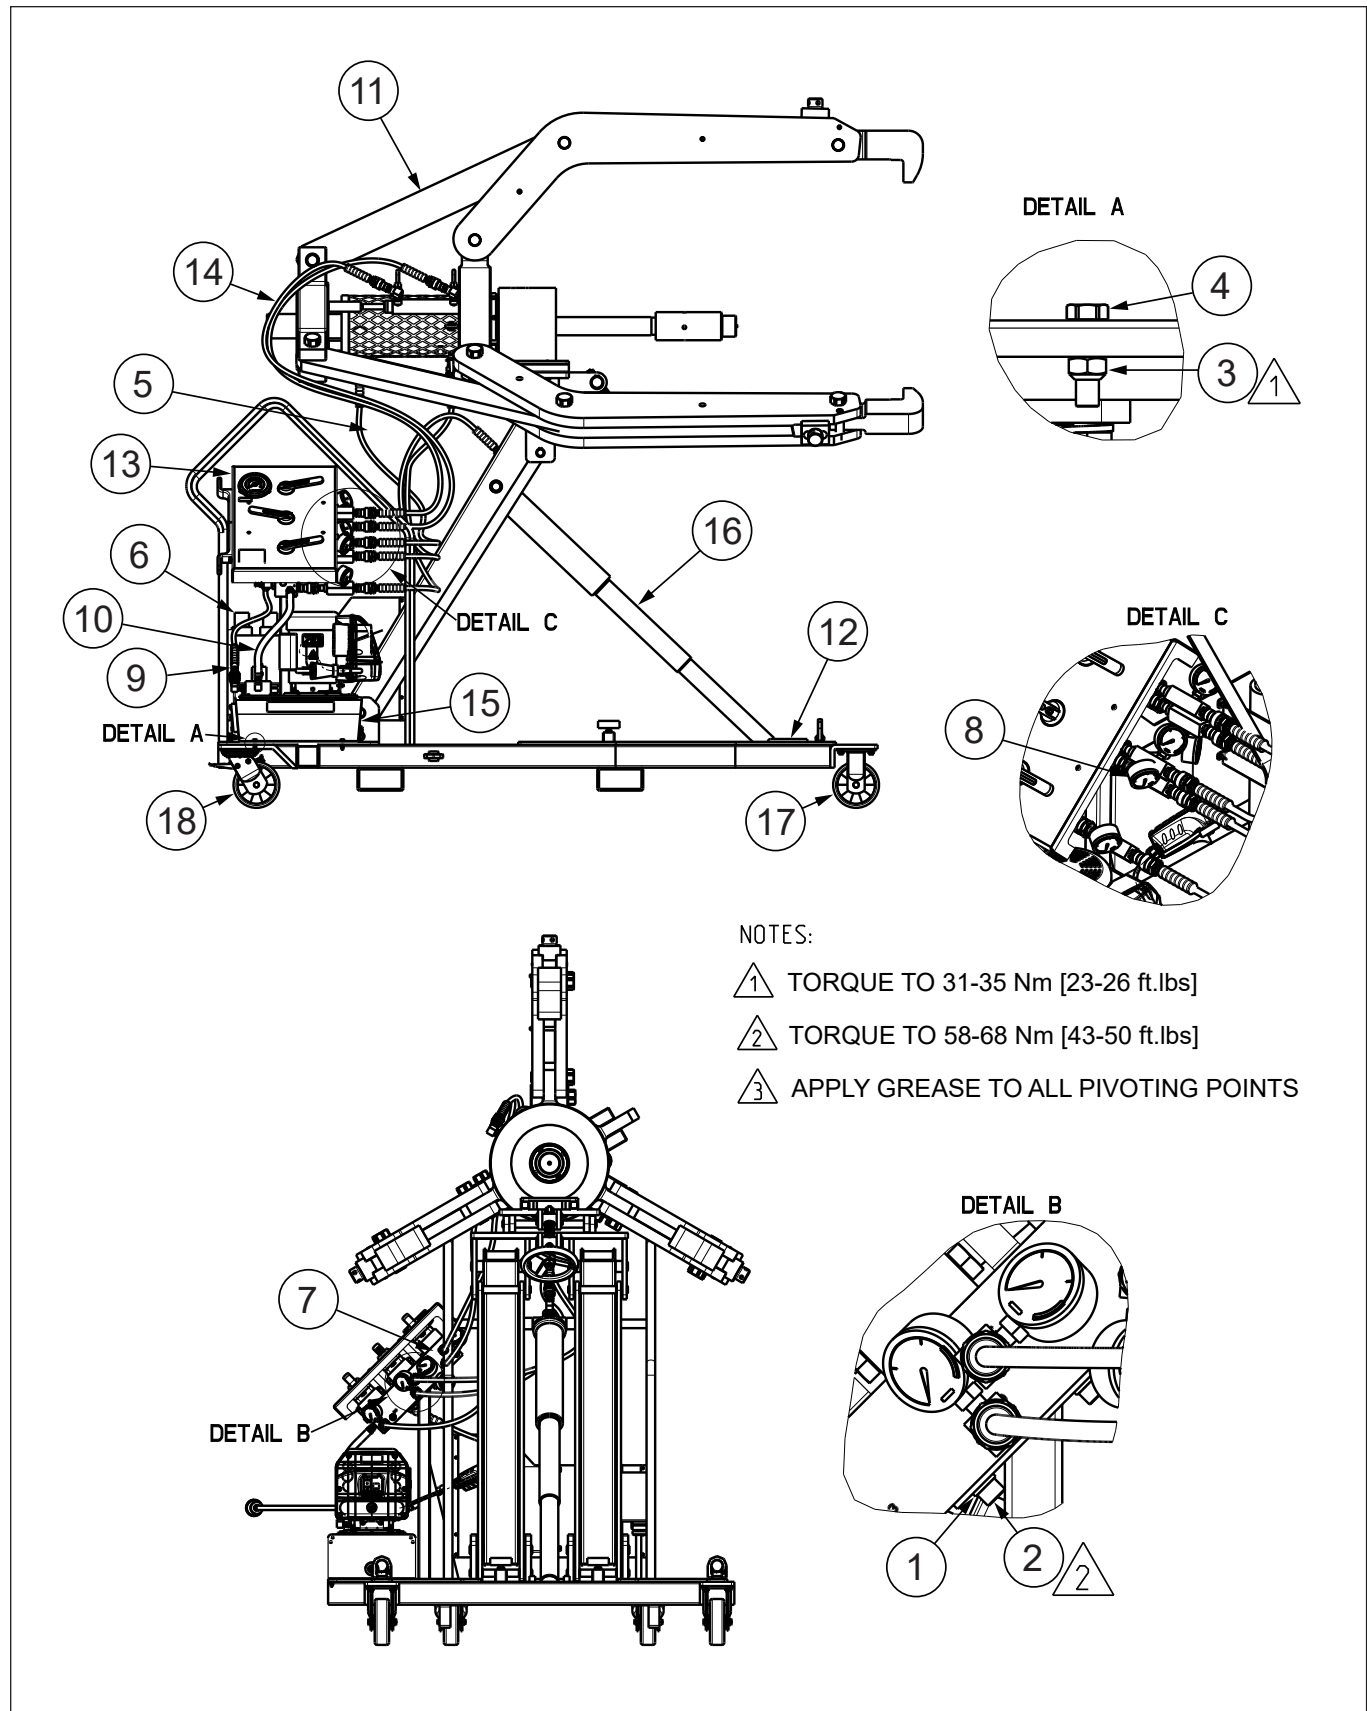

Figure 19: Puller Assembly
Make sure that all hydraulic puller screws (Refer to Figure 19, Item 4) are correctly tightened metal to metal before every operation.
9.1.1 Table of Parts (Figure 19)